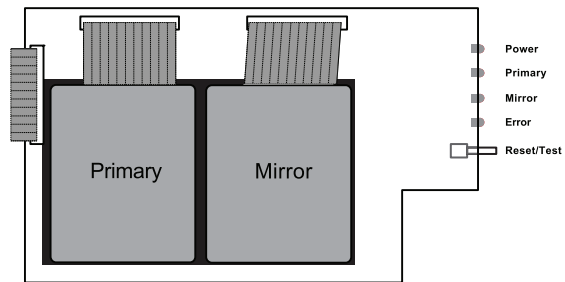

**Fig. M3-1:** Mounting locations of M3 hardware
The M3 kit consists of an M3 printed circuit board, hard drive mounting plate, faceplate, four (4) 1/4-inch standoffs, 12 nylon spacers (washers), eight (8) screws, and an IDE cable for connection to the main board. Refer to **Fig. M3-1**, below, to identify and locate where these components will be installed.